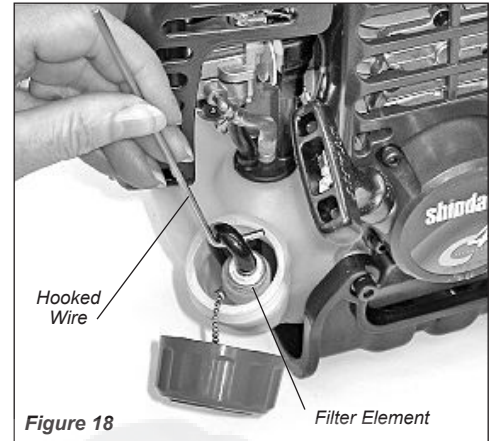

Figure 18
- Use a hooked wire to extract the fuel filter from inside the fuel tank. See Figure 18. Remove and replace the filter element.